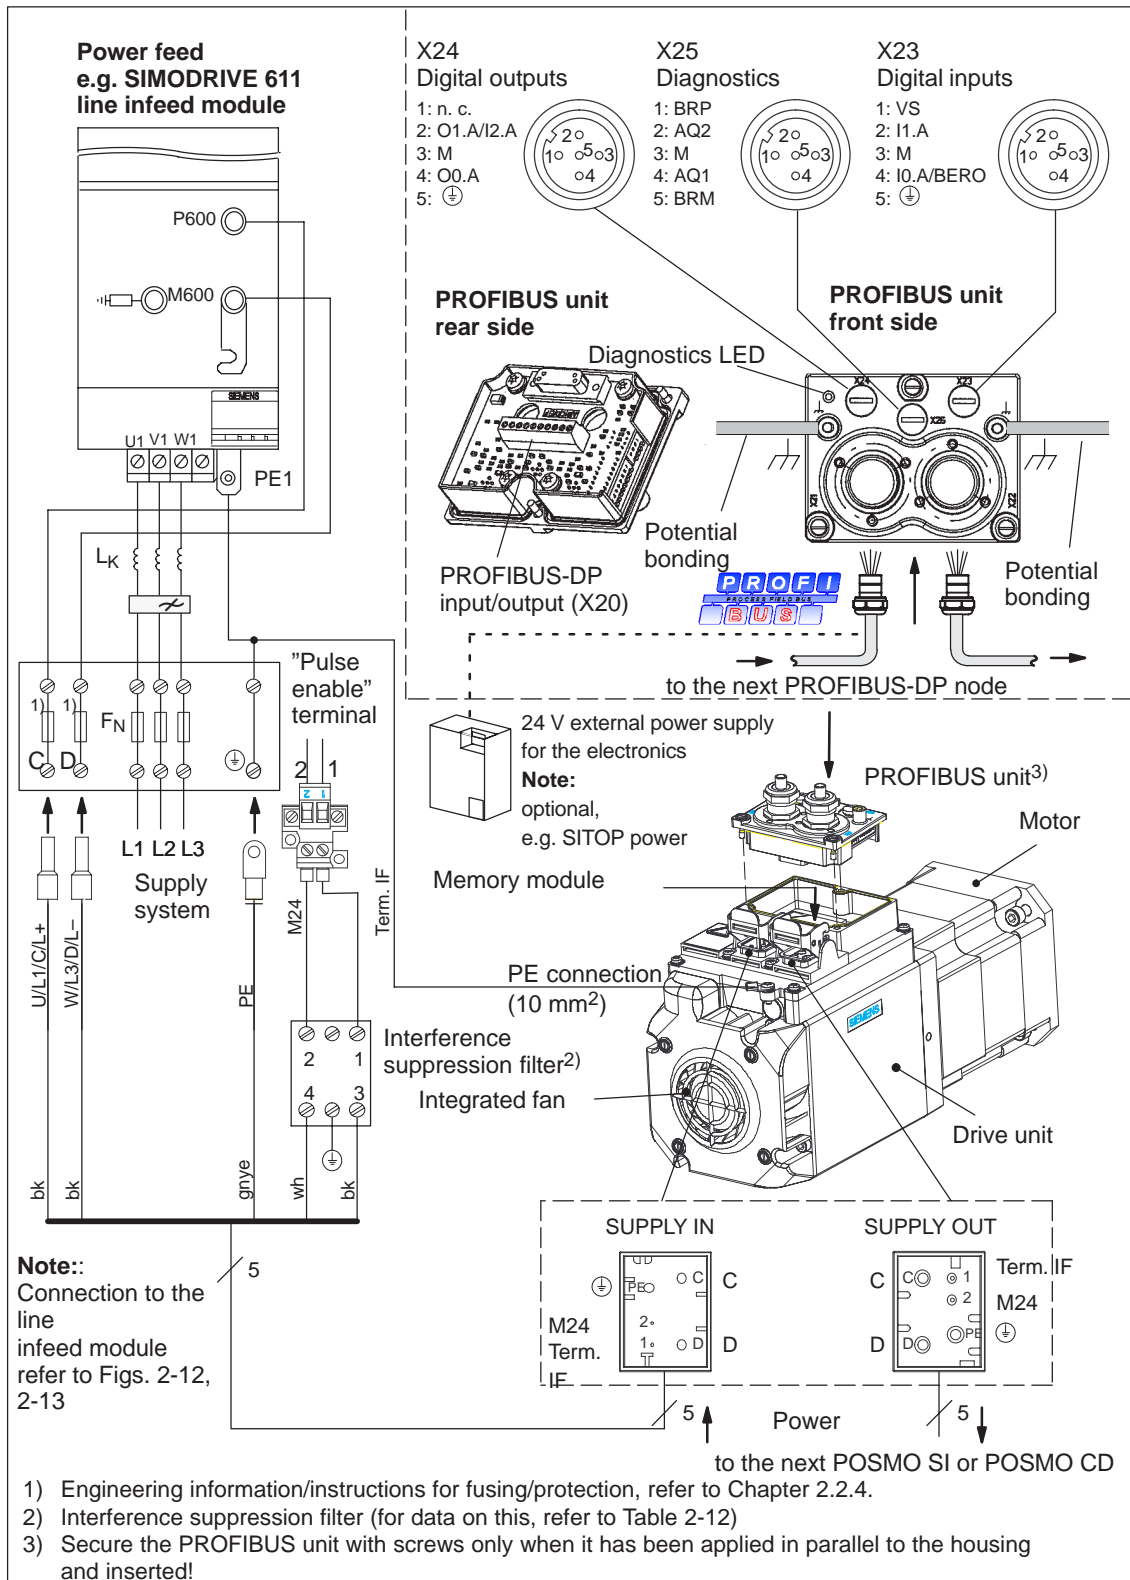

Fig. 2-18 Connection diagram, POSMO SI
- The input and output of the protective conductor at the unit housing must be crimped in one cable lug (refer to Figs. 2-18, 2-19 and 2-20).
"Pulse enable" terminal (terminal IF) Note: Additional connection conditions (refer to Fig. 2-18):